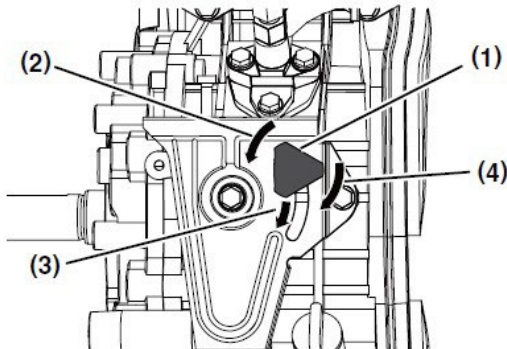

Figure 4
3. If your engine speed control is similar to **Figure 4**:
- (a) Turn the engine speed control knob (**Figure 4, (1)**) to the left (**Figure 4, (2)**).
- (b) Slide the engine speed control knob to the START position (**Figure 4, (3)**).
- (c) Turn the engine speed control knob to the right (**Figure 4, (4)**) to tighten it.